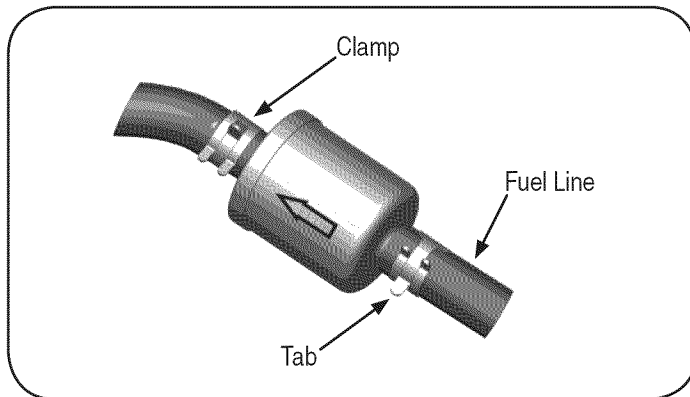

Figure 29
- Use pliers to squeeze tabs on the clamps, then slide the clamps away from the fuel filter. Twist and pull the fuel lines off of the fuel filter. See Figure 29.